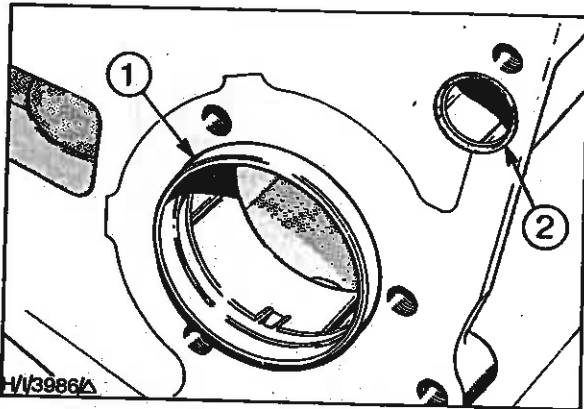

Fig. 36 - Cylinder Block Front Face
1. Remove the timing gear housing locating ring (if not already removed) - see Fig. 36.